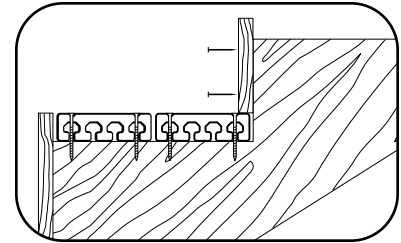

Fig. 25
- Fasten the remaining planks into place, leaving a minimum 1/8" gap to complete the step (Fig. 25).
- To create the next step, place the riser board directly on top of the last plank installed for the previous step (Fig. 25).